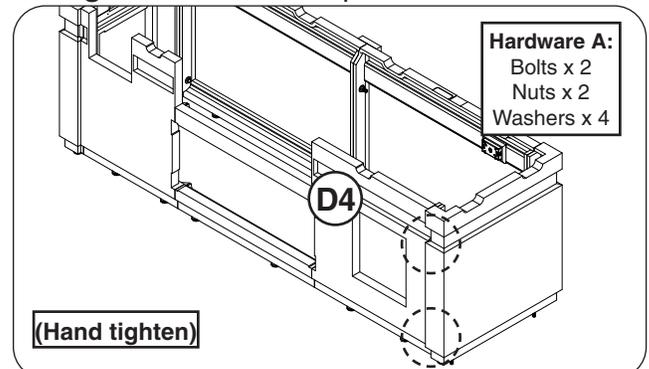
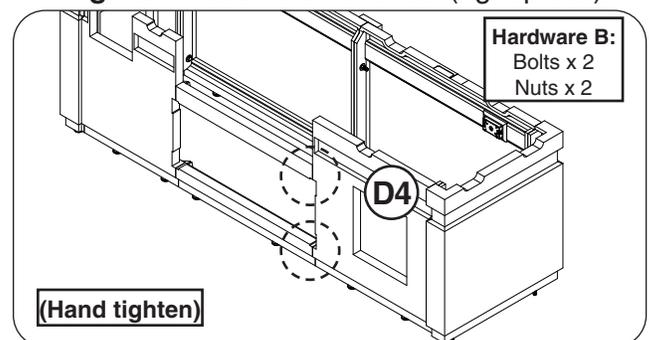

Fig. 10-4 Assemble front wall (right piece)
Fig. 10-5 Assemble top and bottom beams
4. Orient the right front wall piece (D4) and repeat the hardware installation process to fasten it to the right side wall (hardware kit A), and then to the beams (hardware kit B). Hand tighten only. See Fig. 10-4 and Fig. 10-5.